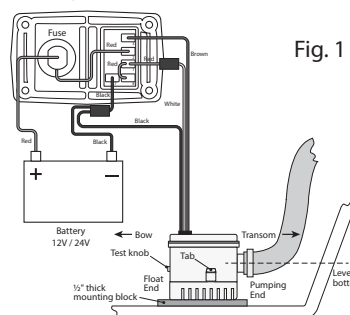

Fig. 1
2. Position the pump in the lowest part of the bilge on a flat, level surface with the outlet pointing toward the transom. Make sure the hull thickness is at least ½" thick. If not, place a block of ½" marine plywood (slightly larger than pump base) under the pump. Be sure that the pump cover can be removed for cleaning in this position. Glue the plywood to the hull with a waterproof adhesive (epoxy, silicone adhesive, or fiberglass resin). See Figure 1.
3. Be sure outlet nozzle is level. If pointed upward or downward, an airlock may form in the pump. (See Figure 1.) **The float end of the pump must be level with or above the pump end** (See Figure 1). This prevents the pump from running out of water while the float is still high enough to activate the pump. **NB! Do not allow the pump to run dry!**
1. Connect wires of the pump as shown in Figure 1
negative battery terminal (-). Figure 1 shows the wiring scheme for albinus' Bilge Pump Panel, part no. 01-66-027.